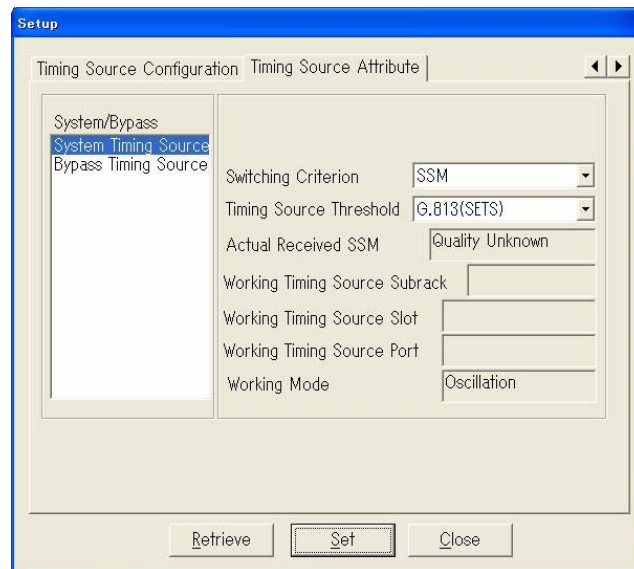

Fig. 4-4-11 Setup-Timing Source Attribute Dialog Box
- 1 Confirm that the **Setup-Timing Source Attribute** dialog box shown in *Fig. 4-4-11* is displayed: